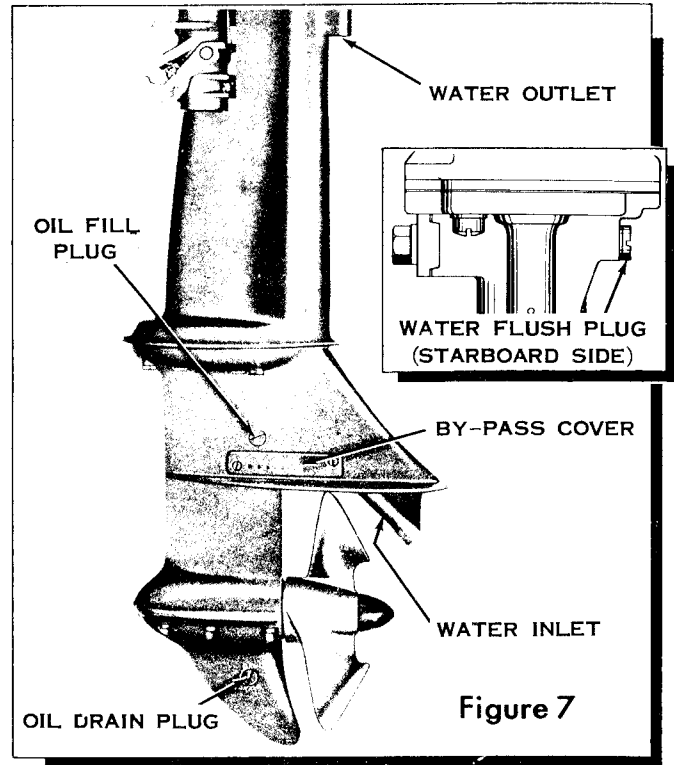

Figure 7
motor thoroughly either by running it in a tank of fresh water or by removing WATER FLUSH plug (Figure 7) and using an adapter (available through your regular Service Parts Source), run fresh water through cooling system. Avoid excessive pressure which might damage gaskets. Wipe the motor dry and go over all parts with an oily cloth. This should be done as soon as possible after removing motor from boat.
Where a complete change of lubricant is required, remove both the fill and drain plugs (Figure 7) with motor in upright position. Drain out all of the oil, water, or residue, replace the drain plug, then fill the gear case through the fill plug with a pump type oil can. Replace plug.
If, while operating motor at full speed, it should show signs of slowing down, immediately check water discharge at water outlet (Figure 7) located at rear of the motor directly below cylinder. In case no water is being discharged, immediately shut off the motor and check water inlet (Figure 7) for obstruction. If no obstruction is found, it may indicate worn pump parts.
No outboard motor should be placed in storage without considering the necessary precautions. Remove all plugs in the gear case and driveshaft housing, marked DRAIN, FILL and WATER FLUSH (Figure 7) to allow water in the gear case and water remaining in the cooling system to drain off. To make certain all water has been drained, rock motor from side to side. If operated in salt water, flush cooling system with fresh water.
3. Remove water by-pass cover (small metal strip on lower port side of upper pump housing, Figure 7).